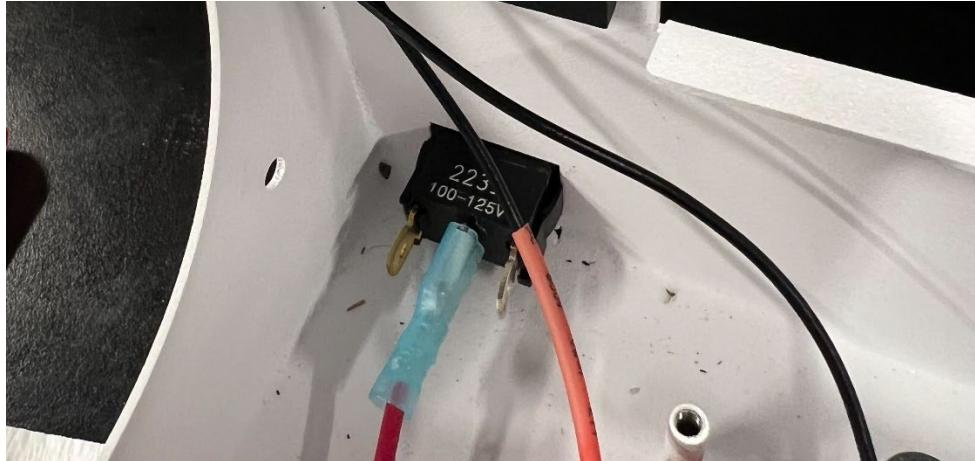

Figure 17: Connection to the middle tab of the rocker switch, which connects to the relay
2. Using the long red wire from the relay, crimp the other end with a quick connect and connect it to the middle tab of the front panel switch, as shown in Figure 17.
Figure 17: Reed switch orientation and positioning. You may need to test the connectivity to find a more appropriate location depending on where you glue the magnet